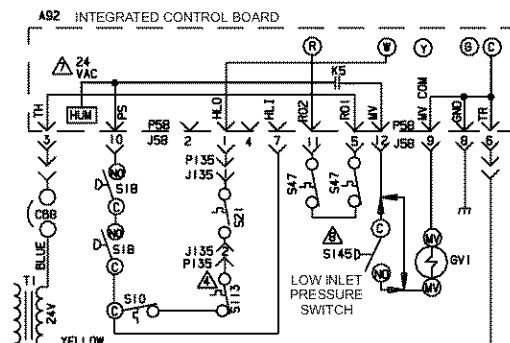

FIGURE 5
- 7 - *Units equipped with Honeywell gas valves only --* Remove the existing inlet pressure tap plug from the gas valve. Install the gas valve inlet tap fitting into the gas valve inlet tap. Install the low inlet pressure switch (S145) on the inlet tap fitting. See figure 4. Connect the provided wiring harness as shown in figure 5.